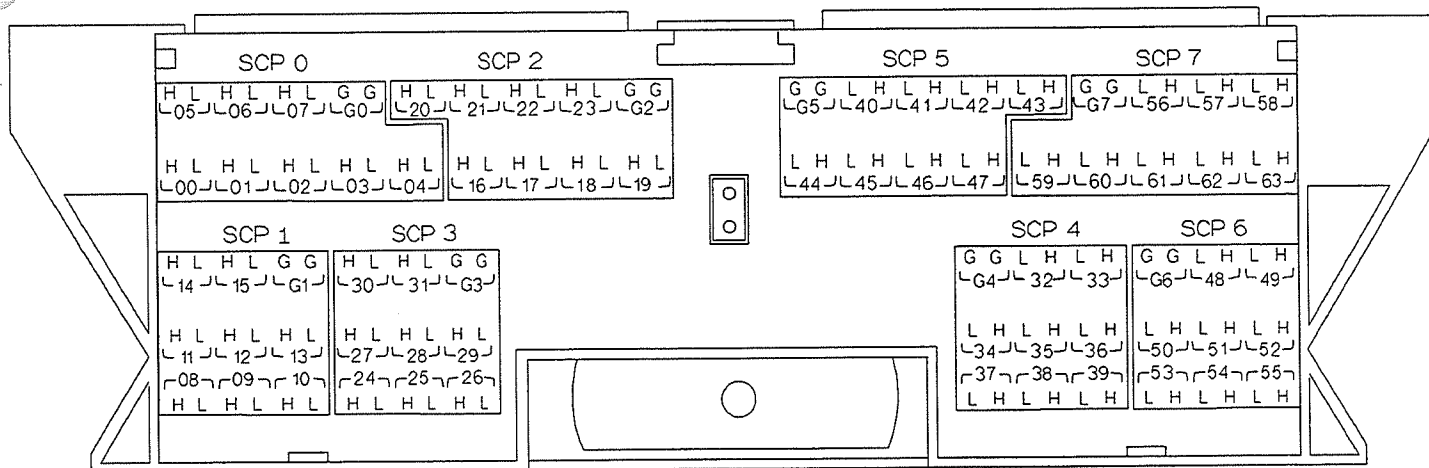

Figure 4 HP E1413 Option 11 Terminal Module Connections
- For HP E1413B and below Terminal Modules, use stickers for HP E1413 Option 11 SCPs. The connections are shown in Figure 4.